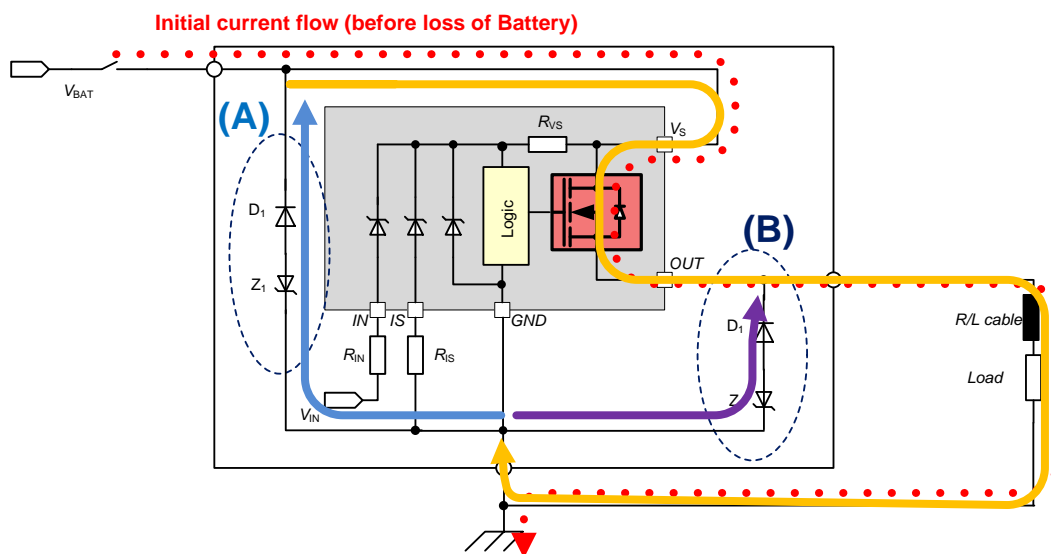

Figure 4 Loss of Battery
- The Maximum Single Pulse Current vs. Pulse Time (refer to datasheet figure 4) shall not be exceeded. Especially when Power PROFET™ is used in high current
Figure 4 illustrate this condition.
Before loss of ECU Battery a load current may flow from the battery through the ECU according Figure 4 red dashed line (i.e. from battery, through battery supply wire, through ECU battery connector, on the ECU PCB traces through the Power PROFET™ power stage, through ECU load connector, through load, through ground/chassis back to battery gnd pole).
- A GND related clamping of the VS pin (see Figure 4 light blue freewheeling path option (A))
- A GND related clamping of the OUT pin (see Figure 4 lila freewheeling path option (B))